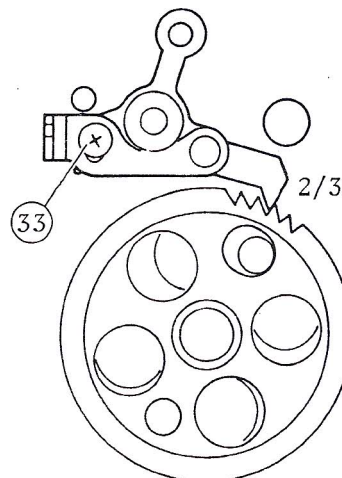

Fig. 80
- b. At this time, (30) wind stop lever pawl should mesh at least 2/3 deep with the ratchet. (Fig. 80)